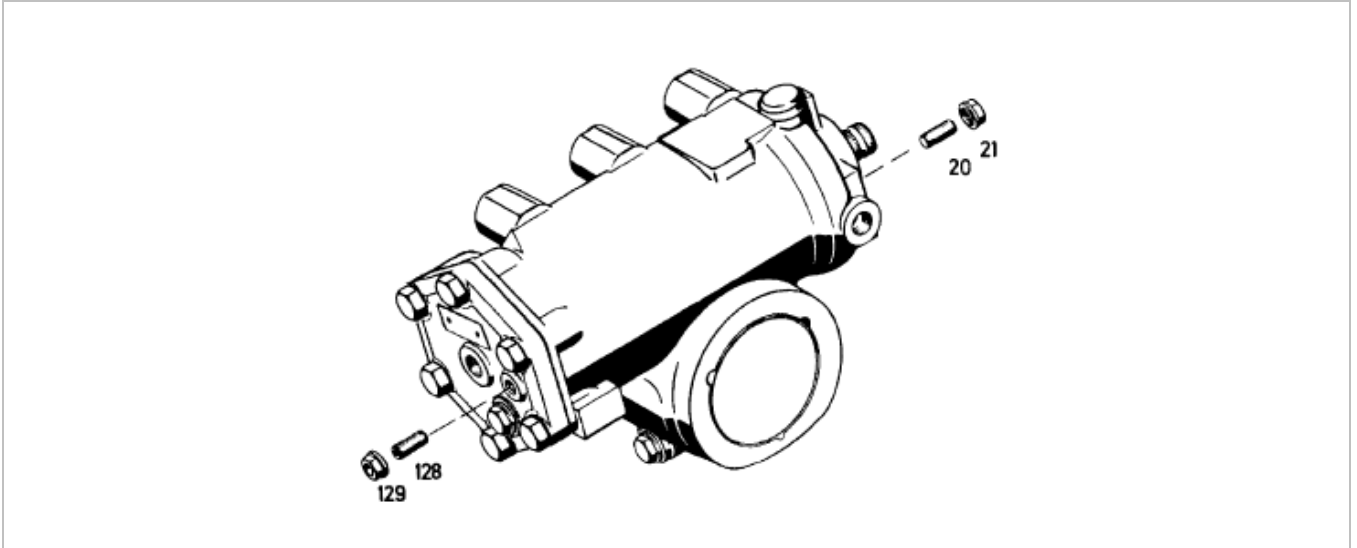

Fig. 9: Hydraulic steering limitation with manual setting
5. To correct, slacken the corresponding collar nut (21 or 129) and screw the set screw (20 or 128) Fig. 9 in or out.